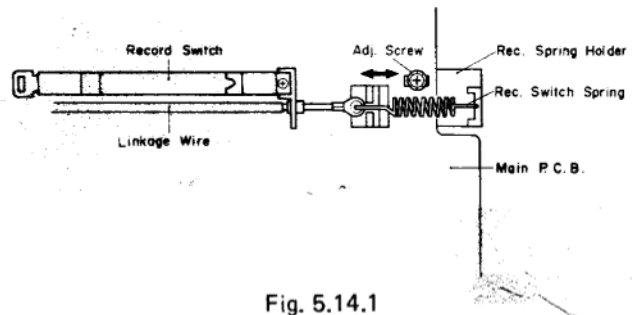

Fig. 5.14.1
- (1) Set the N-480 in stop mode.
- (2) Loosen the screw of the Record Spring Holder, and shift the Record Spring Holder in order to remove the looseness of the Linkage Wire as shown in Fig. 5.14.1. Then tighten the screws for fixing the Record Spring Holder. (In this case, the Record Switch should be positioned at play side. If on the record position, it will be defective.)